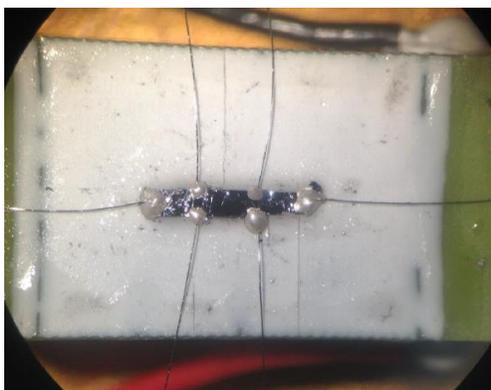

fig. S2. MoTe₂ crystal on the piezoelectric stack.
- fig. S2. MoTe₂ crystal on the piezoelectric stack.